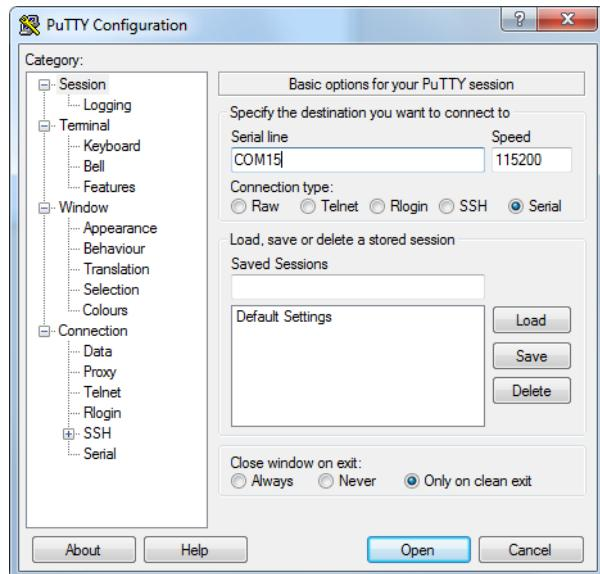

Figure 2-5. PuTTY settings for Windows computers
- The rest of the defaults should be fine (see Figure 2-5). Click OK.
8. The rest of the defaults should be fine (see Figure 2-5). Click OK.